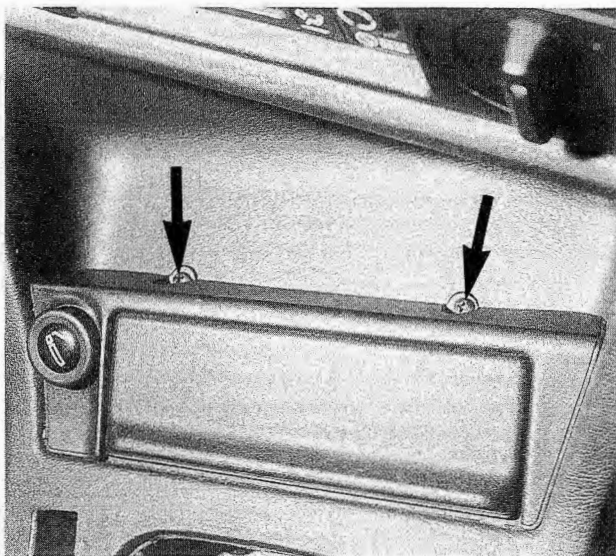

Fig. 4-8. Ashtray console retaining screws (arrows).
8. Remove the ashtray and cigar lighter console by removing the two screws shown in Fig. 4-8, and then disconnect the wiring.